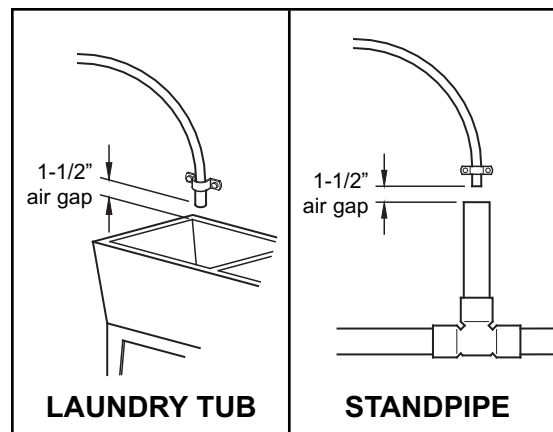

FIG. 8
1. Measure, cut to needed length and connect the 3/8 in. drain line (provided) to the Automatic Sediment Filter's valve drain fitting (See Figure 8 on Page 7). Use a hose clamp to hold hose in place.